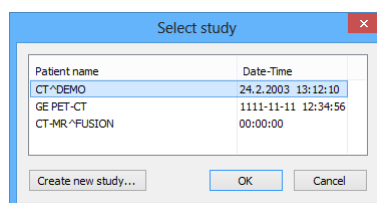

Figure 360 – Select study dialog
1. Select the existing study for the insertion of the new series from the studies list in the **Select study** dialog (see Figure 360).